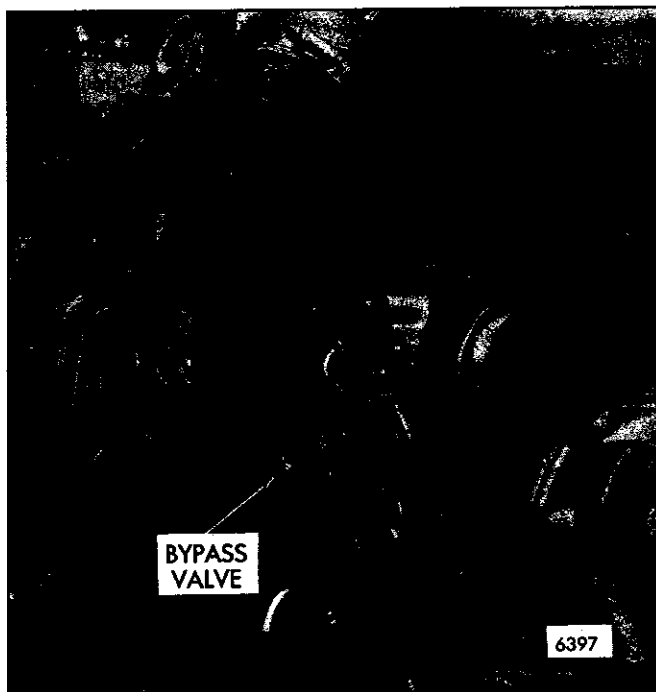

Fig. 22 – Typical Bypass Blower Valve Installation
- d. Secure the bypass valve to the blower with clamps and bolts (Fig. 22).